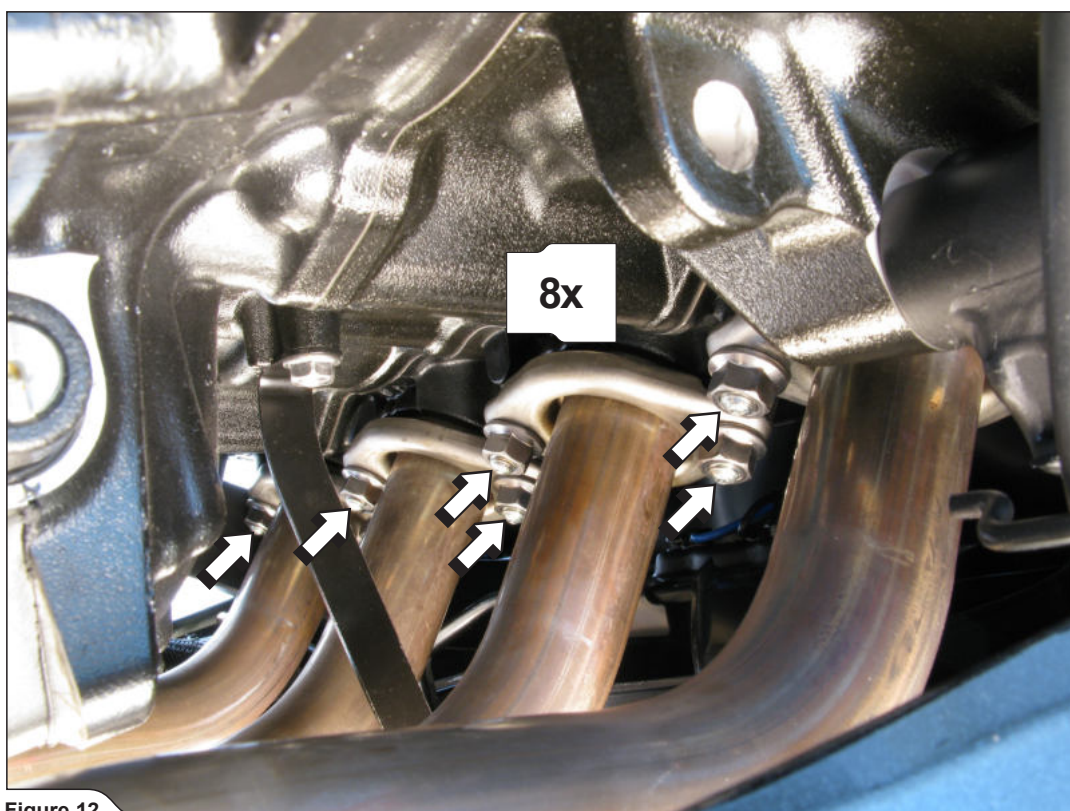

Figure 12
11. Unscrew all flange nuts (Figure 12).